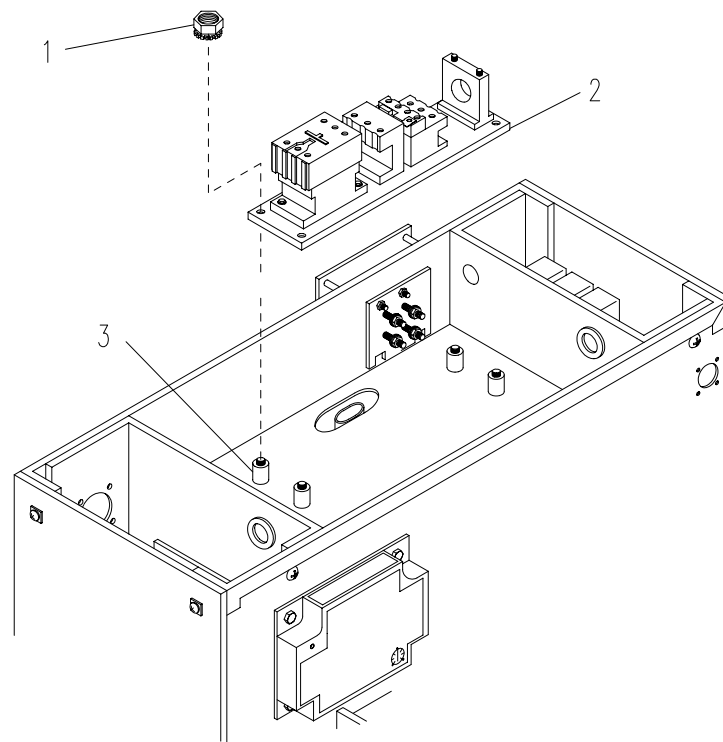

Figure 4-40. Contactor Mounting Plate
- (1) Follow wire from terminal T1 to where it is wrapped around current transformer and cut tie down strap.
- (2) Tag and remove lead from terminal T1 by loosening one all purpose screw.
- (3) Cut and remove tie down strap securing wire connected to terminal A.
- (4) Tag and remove leads from terminals A and B by loosening two nuts and lock washers.
- (5) Unwrap and remove all wires from current transformer (refer to caution above).
- d. Remove contactor mounting plate (2, Figure 4-40) by removing four nuts with captive washers (1) from vibration studs (3).